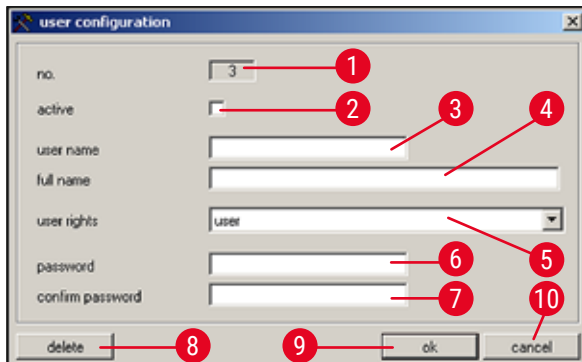

Fig. 34
- Double-clicking a line in the configuration display opens the **User configuration** dialog box (→ Fig. 34).